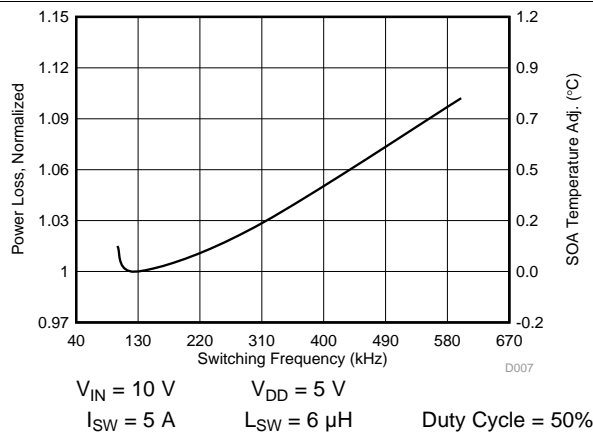

Figure 7. Normalized Power Loss vs Frequency
- Normalized Power Loss for switching frequency ≈ 1.03 (Figure 7)
- SOA adjustment for switching frequency $\approx 0.20^\circ\text{C}$ (Figure 7)